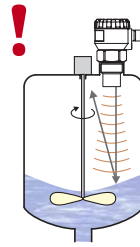

Fig. 13: Intensely stirred surface
- **Rotating mixer blades can cause** that the surface is stirred, which results in false reflections of the ultrasonic signal from the surface level and unreliable operation of the level meter (Fig. 13).